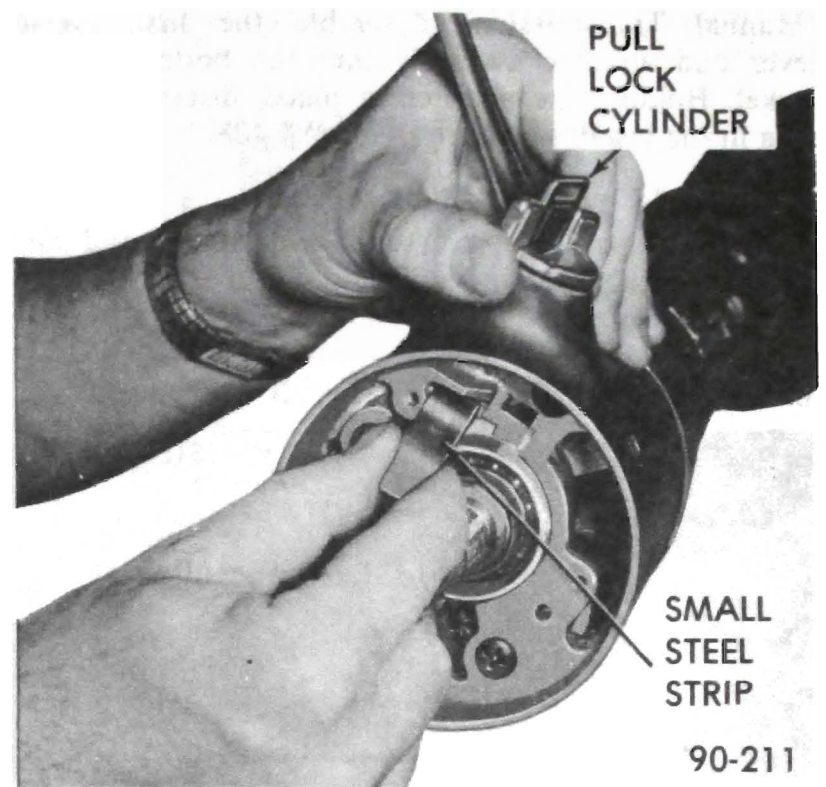

Figure 90-111 - Removing Ignition Lock Cylinder
12. Insert a thin tool (small screwdriver or knife blade) into the slot next to the switch mounting screw boss (right-hand slot) and depress spring latch at bottom of slot, which releases lock. Remove lock. See Figure 90-111.